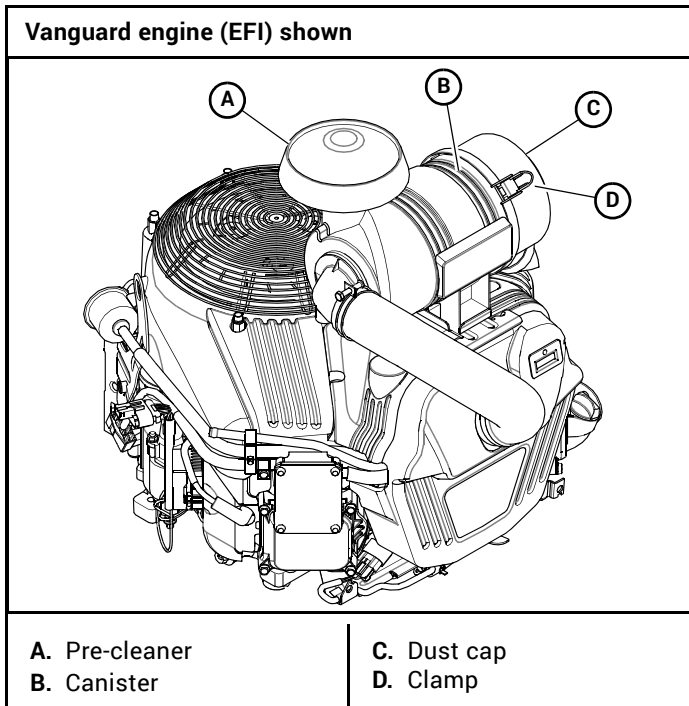
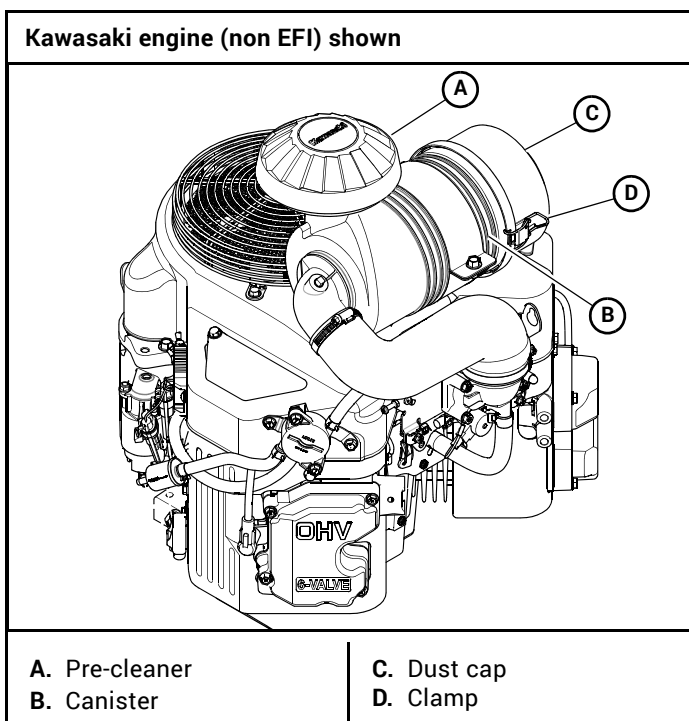

Figure 4-12
Figure 4-13
A specially designed dry filter is standard equipment on these mowers and supplies clean combustion air to the engine. Figure 4-11, Figure 4-12, & Figure 4-13
3. Reinstall the dust cap. Make sure it seals all the way around the air cleaner canister, then tighten the clamps. Figure 4-11, Figure 4-12 & Figure 4-13